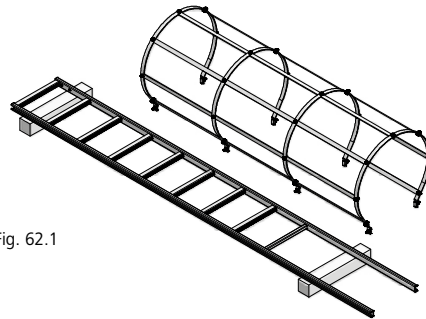

Fig. 62.1
1. Screw the safety cage to the top end of the ladder (Fig. 62.1).